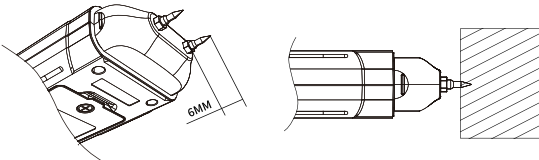

Figure 1
vertically into the wood sample till the 6mm depth limit of the probe (See Figure 1);
① Long press "  " button to turn it on;
② Choose paper packaging or wall measurement mode.
③ Take off the cover of the test probe sensor and insert it vertically into the paper or wall sample till the 6mm depth limit of the probe (See Figure 1); (If it is not possible to insert the measured object, please press firmly to ensure accurate measurement results).